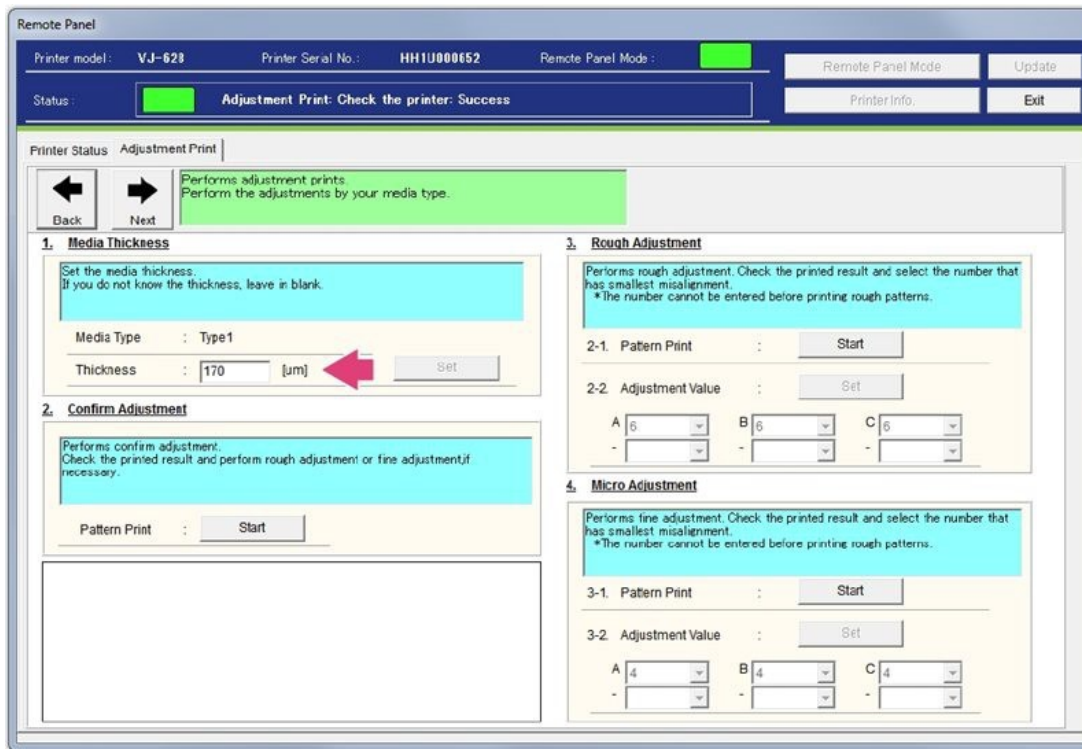

Figure 78
65. By default the thickness of the media is set to 170 μ m. You may adjust this to your media specifications or leave as is if you are unsure. See Figure 78.